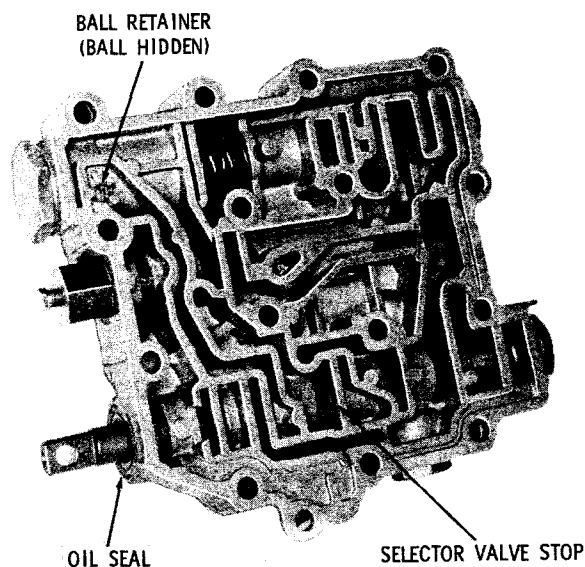

Fig. 6-1. Control valve body assembly—mounting side
(1) If the retainer plug and ball were removed from the control valve body, install a new ball and retainer (fig. 6-1). Place the retainer plug, open end upward, over the ball. Press the retainer plug until it is flush with, to 0.010 inch (0.25 mm) below, the surface of the three supporting bosses.
(2) Install one spring 31 (B, foldout 9) and detent ball 28 into control valve body 9. Depress the ball against the spring, and install
(3) Install the remaining detent ball 28 and spring 31; install gasket 30 and plug 29 to retain the ball and spring. Tighten the plug securely.
(4) Position the selector valve in the middle detent position (neutral), and install the valve stop in the location shown in figure 6-1.
(5) Coat the outer circumference of the new selector valve oil seal with nonhardening sealer. Install the seal, spring-loaded lip first, over the linkage end of the selector valve into its bore (fig. 6-1). Press the seal into the bore until it is flush with, to 0.030 inch (0.76 mm) below, the surrounding surface.